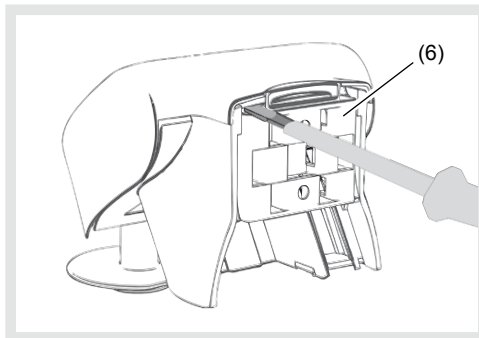

Figure 4: Loosening the wall/mast fixing
The weather station is supplied complete with a wall/mast fixing (6). This is locked into place on the rear of the device upon delivery (figure 4).
- Carefully loosen the wall/mast fixing (6) from the detent mechanism using a screwdriver and slide it downwards to remove (figure 4).